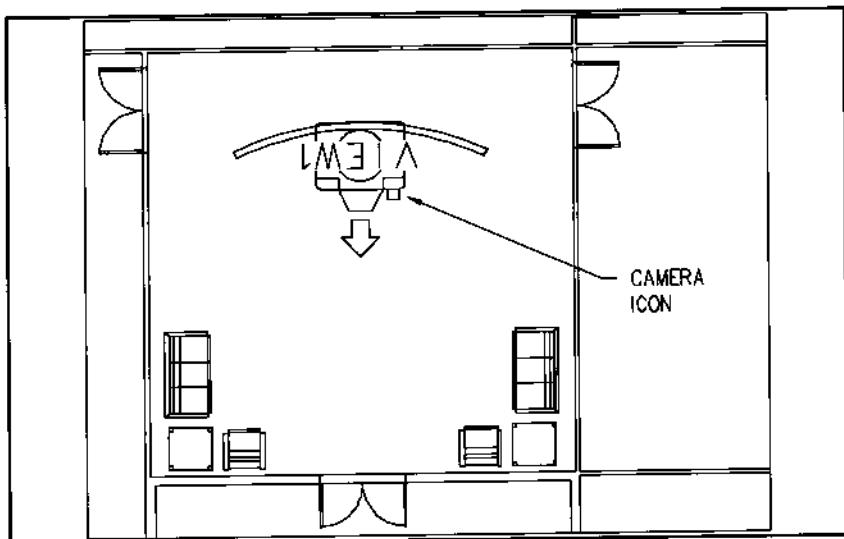

Figure 8.
4. The camera icon appears in front of the custom curved wall. An enlarged view of the icon is shown in Figure 8.